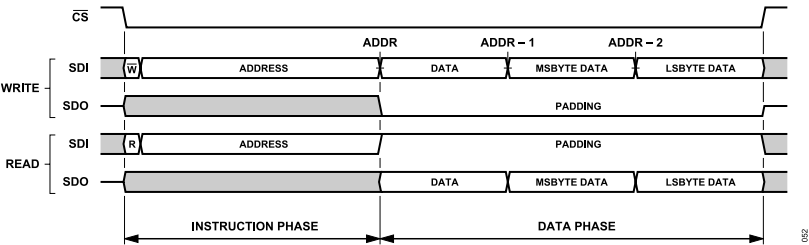
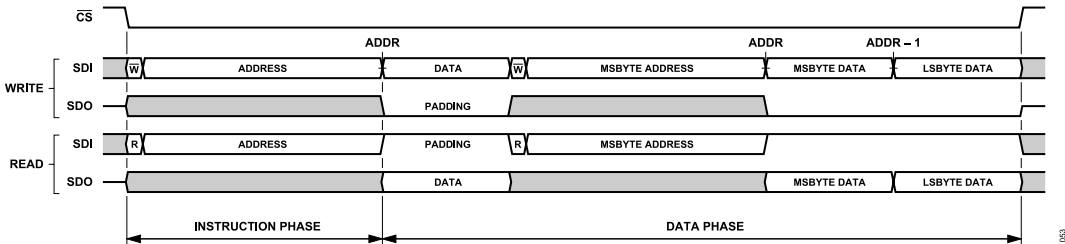
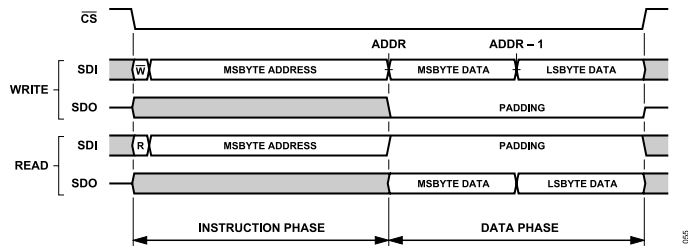
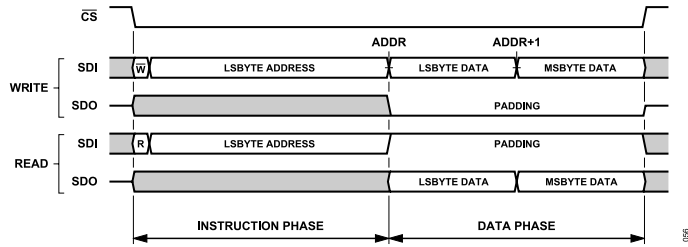

Figure 53. Interface Access Example, Default Interface Configuration, Streaming Mode (ADDR_ASCENSION = 0)
Figure 54. Interface Access Example, Single Instruction Mode (SINGLE_INST = 1), All Other Interface Options Default
Figure 56. Single Instruction Format, $ADDR_ASCENSION = 0$ (Descend), $STRICT_REGISTER_ACCESS = 1$ (Enabled)
Figure 57. Single Instruction Format, $ADDR_ASCENSION = 1$ (Increment), $STRICT_REGISTER_ACCESS = 1$ (Enabled)
Figure 53 illustrates the generic SPI frame formatting for a serial transaction using the default interface configuration. In this example, a portion of the configuration register space consisting of a byte-wide register and a multibyte register is accessed. The address for the byte-wide register resides in the most significant address (ADDRESS) and the most significant byte of the multibyte register resides in the least significant address of the register segment. By default, the ADDR_ASCENSION property is set to descending, indicating that the address for the most significant register is passed to the host controller during the instruction phase. Depending on the selected operation, the instruction word
In single instruction mode (SINGLE_INST = 1), the memory access controller requires an instruction phase to transmit for each register accessed in a given SPI frame as illustrated in Figure 54. This mode is useful when access to nonadjacent sections of the register space is required in a given SPI frame. Note that, the same access flexibility can be achieved in stream mode by initiating a new SPI frame for each unique register access.
The address ascension selection (ADDR_ASCENSION) bit, as described in previous sections, determines how the internal interface address pointer is updated for each byte of data transmitted to the AD4080 in streaming mode (SINGLE_INST = 0). If using single instruction mode (SINGLE_INST = 1), each register is directly addressed through its own instruction phase as illustrated in Figure 54, and thus, the address pointer is not updated. Regardless of the setting for SINGLE_INST, the ADDR_ASCENSION bit directly impacts the formatting of the SPI frame in terms of selection of the instruction phase starting address and byte order of the data phase payload. This impact is described in greater detail in the Strict Access Selection and Multibyte Registers section as much of the data formatting is dependent on this interface configuration selection. The ADDR_ASCENSION selection bit is located in the Interface Configuration A register (see the Interface Configuration A Register section, Address 0x00).
As indicated in Figure 56, the address counter, by default, automatically decrements ($ADDR_ASCENSION = 0$) such that the most significant byte of the multibyte register is accessed first, followed
As an extension of this concept, when $STRICT_REGISTER_ACCESS = 1$, any SPI frame that accesses a multibyte register as the first entity in the data transfer must correctly set the starting address in the instruction word to correspond to the $ADDR_ASCENSION$ selection. In the case that the address counter automatically decrements ($ADDR_ASCENSION = 0$), the starting address is assigned to the register address for the least significant byte of that multibyte register, and conversely, if configured to increment automatically, the starting address must be set to the register address for the most significant byte. As a result of the change to $ADDR_ASCENSION$ from automatic address decrement (0) to automatic increment (1), Figure 53 and Figure 54 will change as illustrated in Figure 56 and Figure 57 to accommodate the changes in data phase byte order and instruction phase multibyte register start address.